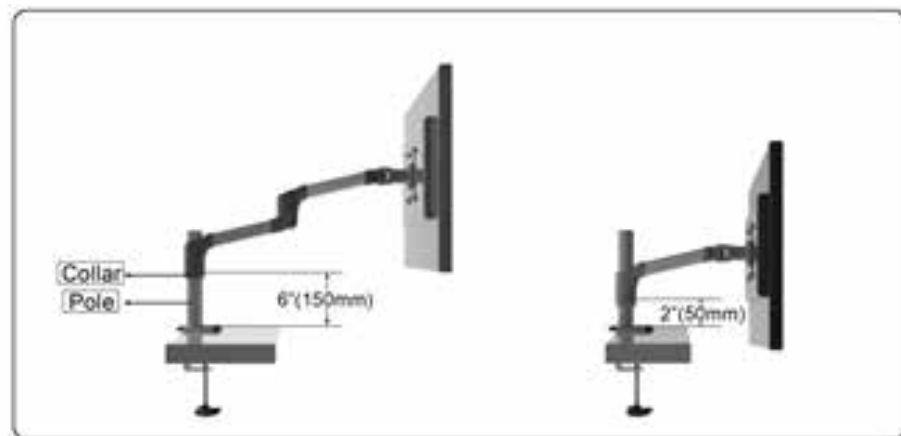

Figure 14
1. Loosen the Collar and move Collar and Dual Arm Assembly up/down to the desired position. (See Figure 14)